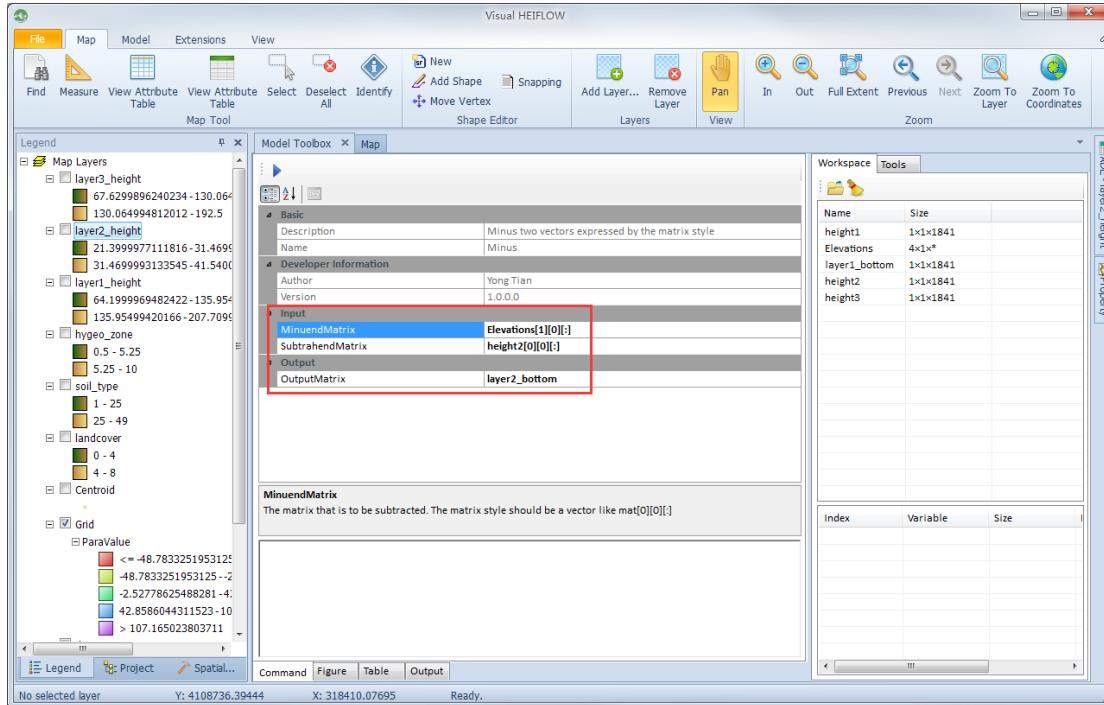

Figure 5-25. Calculating bottom elevation of layer 2 by using the Minus tool.
- 12) Double click the “Minus” tool. Set its Input and Output according to Figure 5-25, and click Run. Note that MinuendMatrix should be “Elevations[1][0][:]” and SubtrahendMatrix should be height2[0][0][:].